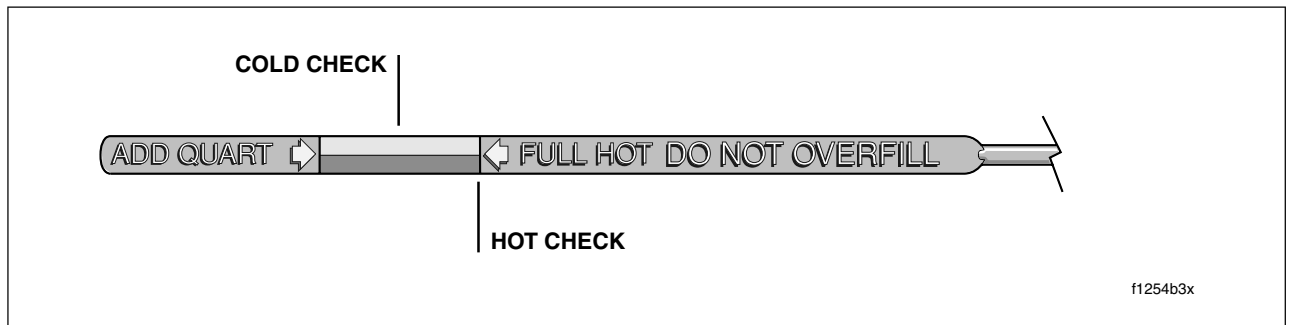

Figure 3-19. Engine Oil Dipstick
- b. Remove the dipstick and note the level of the oil. Oil level should register between the two arrows on the dipstick. See Figure 3-19. If oil level is at or below the lower arrow, add only enough oil to bring the level between the two arrows on the dipstick.
- d. Remove the dipstick and note the level of the oil. Add only enough oil to bring the level to the FULL mark on the dipstick. See Figure 3-19. Do not overfill.